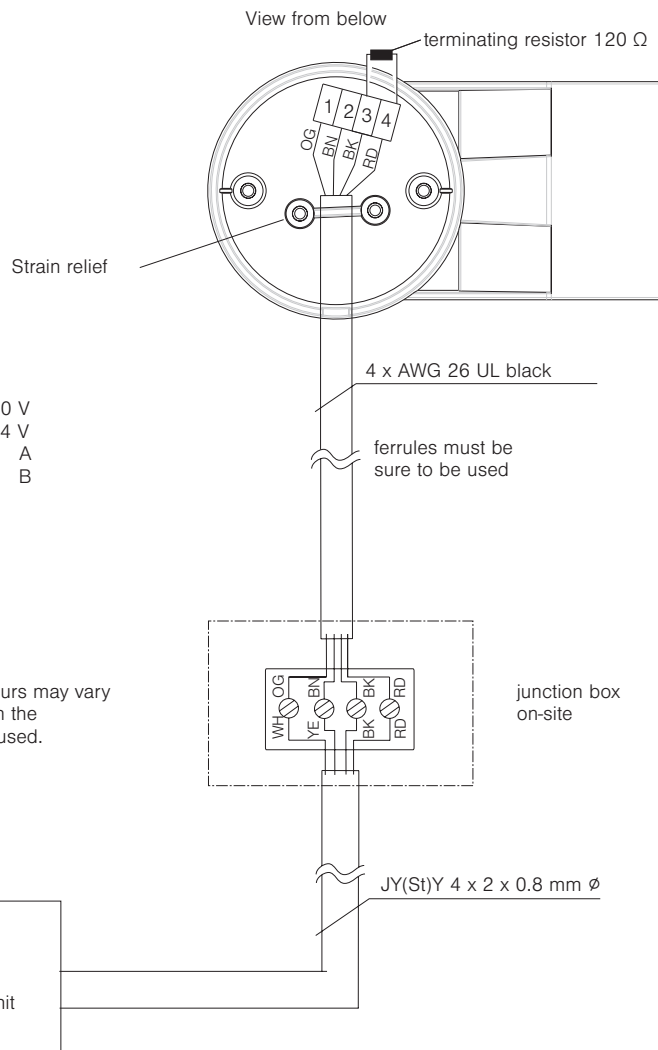

Fig. 4 WAREMA Weather station move wiring diagram
- Connect the weather station to the Omnexo Central control unit as per wiring diagram Fig. 4 on page 4.
**i** If the WAREMA Weather station move is the last bus device in the bus line, the terminating resistor needs to be manually set (see Fig. 4 on page 4).